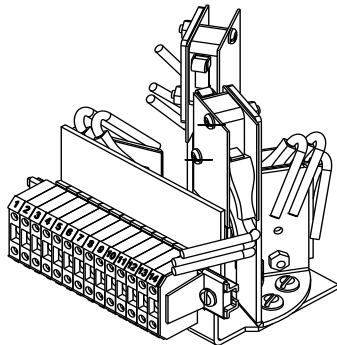

Figure 1:
- Remove screws that secure the switch sub-assembly to the actuator housing. The switch sub-assembly should be easily removable from actuator assembly (see Figure 1: Typical Switch Sub-Assembly).